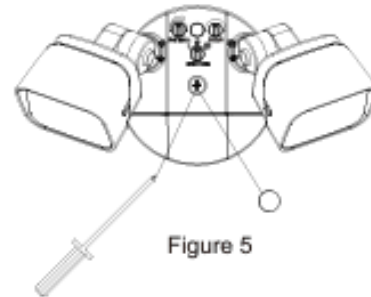

Figure 5
5. Remove the rubber cap and securely attach the light to the bracket using screws (Figure 5).